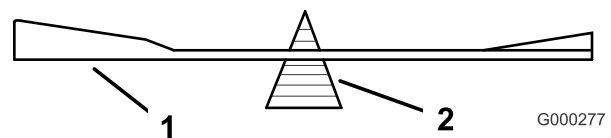
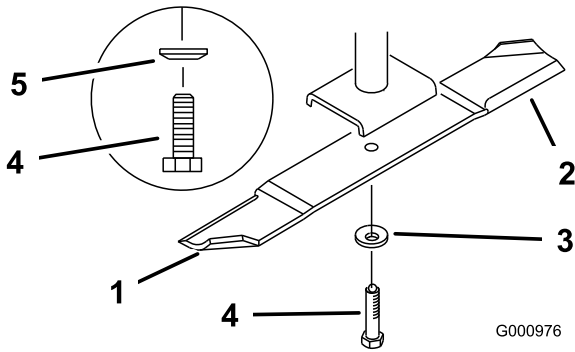

Figure 62
Figure 63
2. Remove the blade bolt, spring disk and blade from the spindle shaft (Figure 63).
2. Check the balance of the blade by putting it on a blade balancer (Figure 62). If the blade stays in a horizontal position, the blade is balanced and can be used. If the blade is not balanced, file some metal off the end of the sail area only (Figure 63). Repeat this procedure until the blade is balanced.
1. Install the blade onto the spindle shaft (Figure 63).
2. Install the spring disk and blade bolt. The spring disk cone must be installed toward the bolt head (Figure 63). Torque the blade bolt to 85-110 ft-lb (115-150 N•m).